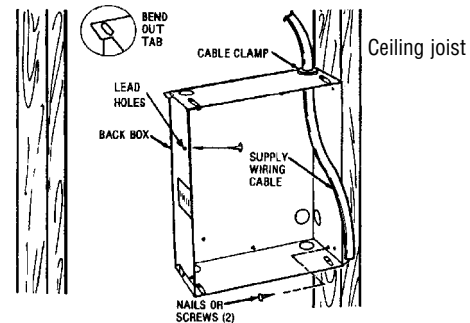

Figure 1
1. Determine which side of the back box is to be mounted against a joist and bend the tabs at the rear corners out 90 degrees so that the back box will be square with the joist after installation. (See Figure 1).
3. Position back box against side of joist and secure using nails or screws as shown in Figure 1.
**NOTE:** Lead holes for a #8 sheet metal screw have been provided in the sides of the back box. After the finished ceiling has been put up, drive a # 8(m4) sheet metal screw (recommended 1") through the side of the box not mounted to the joist. This will prevent the back box from pulling out when installing the heater assembly. (See Figure 1)